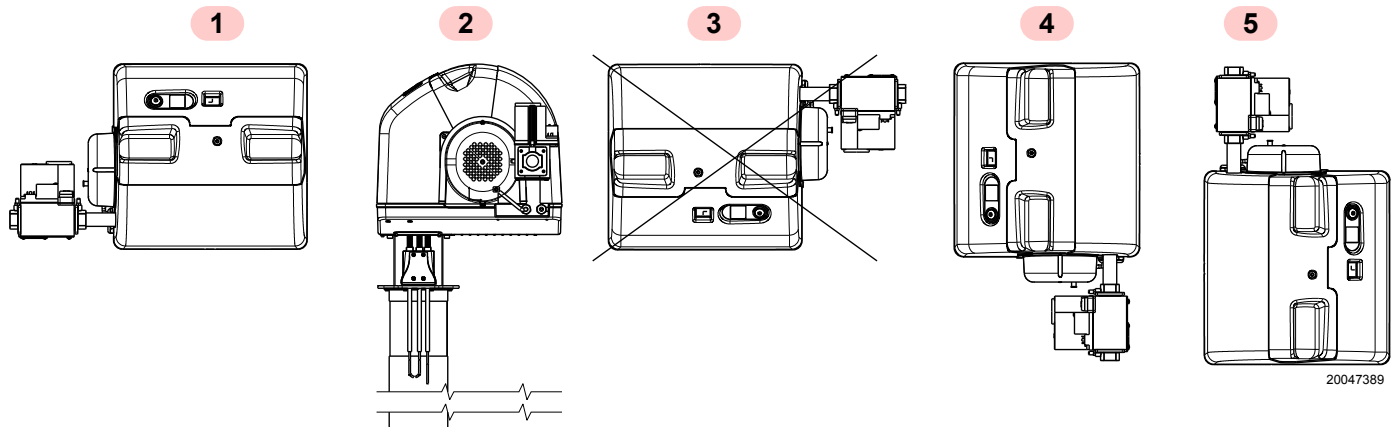

Fig. 10
- The burner is designed to operate only in positions **1**, **2**, **4** and **5** (Fig. 10).